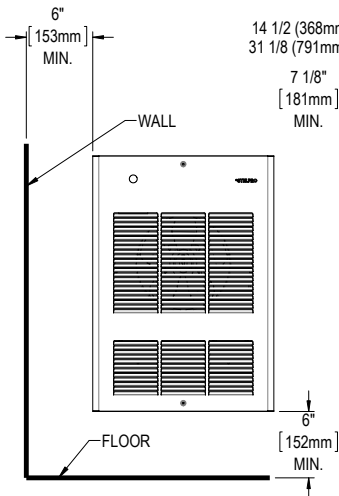
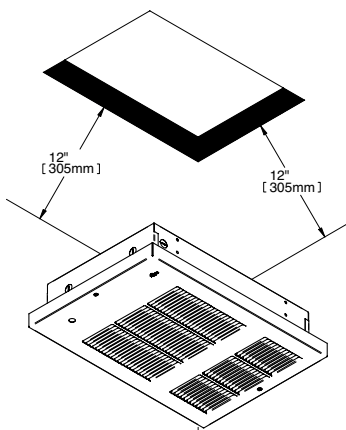

FIG. 1
FIG. 4
1. Recessed and surface installation of AWF units (wall mounting) must meet the minimum distances for single and double units (see figures 1 and 2). For ACF units (ceiling mounting), the minimum distance from the wall is 12 inches (305 mm) (see figure 4).